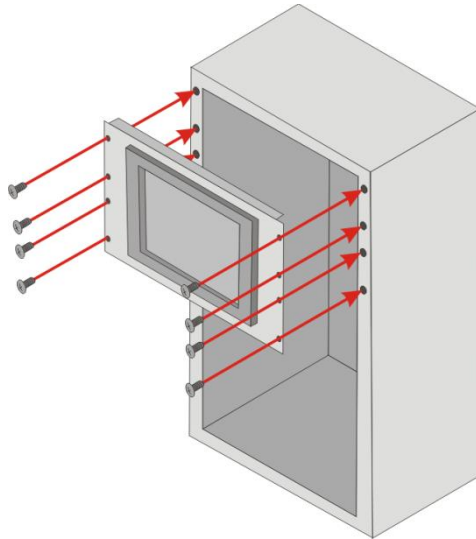

Figure 3-23: Install into a Rack/Cabinet
Step 6: Slide the AURA-xxx-RK3576 Series with the attached rack/cabinet bracket into a rack or cabinet (**Figure 3-23**).
Step 7: Once the flat panel PC with the attached rack/cabinet bracket has been properly inserted into the rack or cabinet, secure the front of the rack/cabinet bracket to the front of the rack or cabinet (**Figure 3-23**).